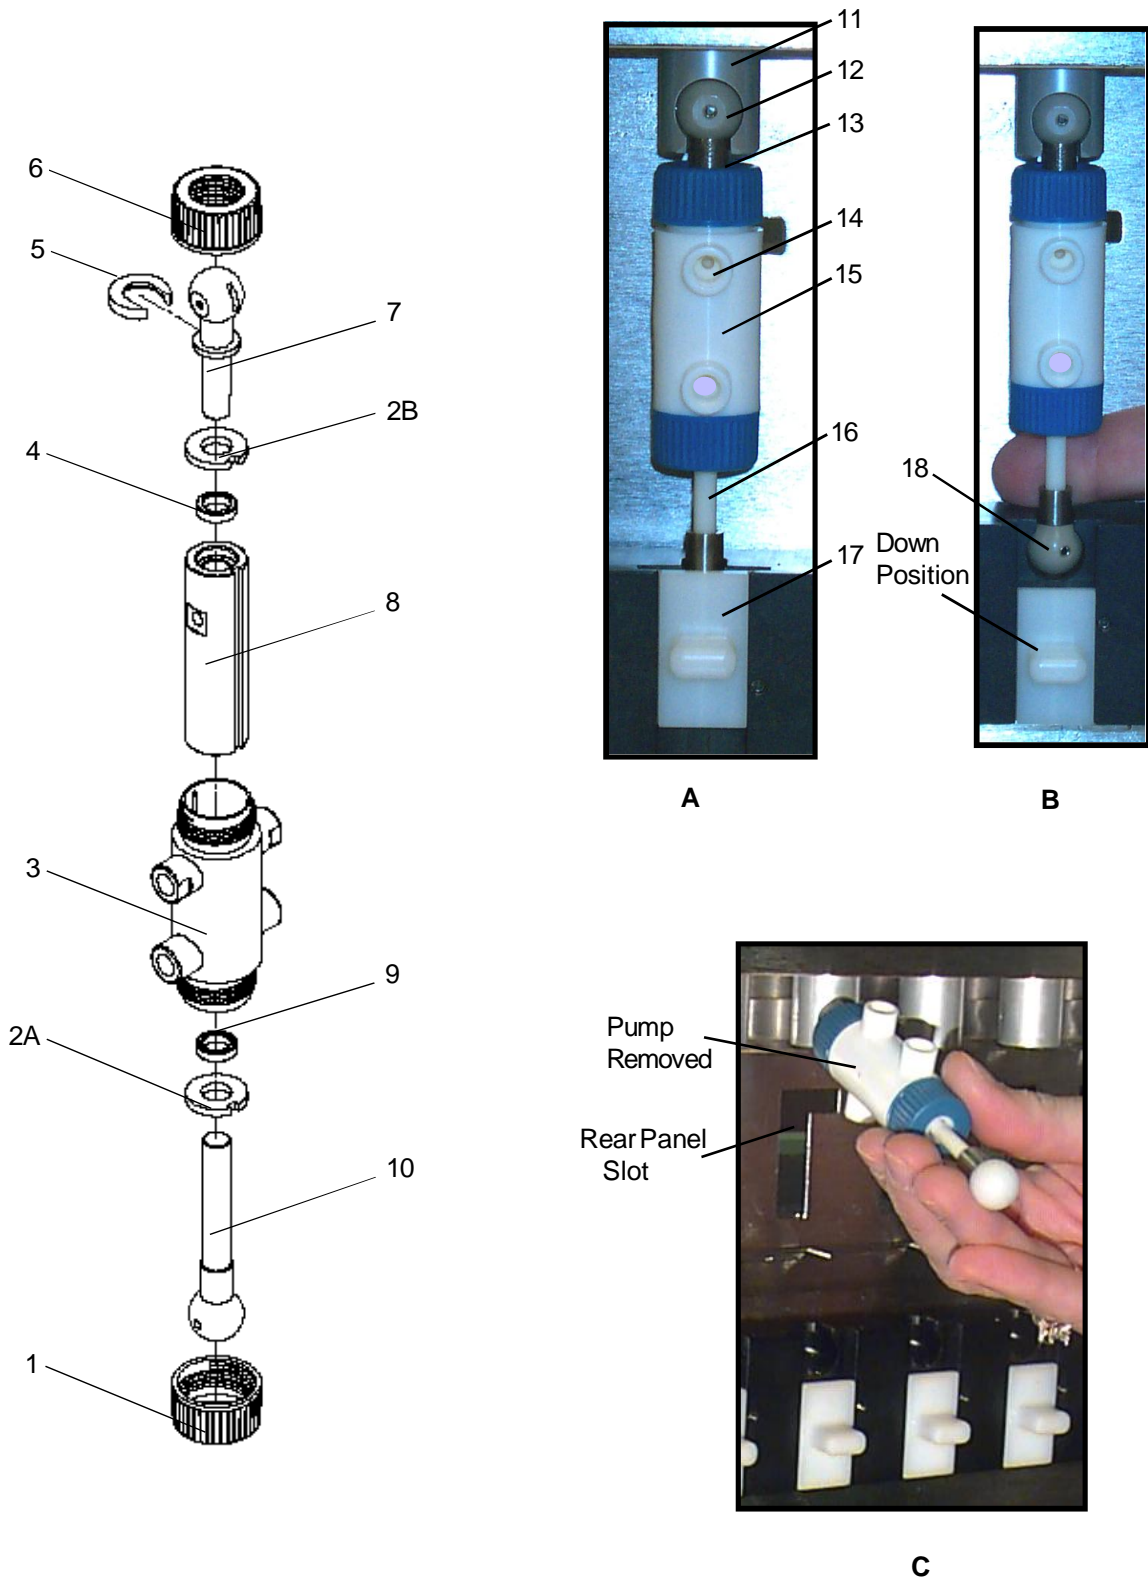

Figure 7.2 SF Multiplex Pump Module Assembly/Disassembly
7.5.2 Assembly/Disassembly Procedures (Figure 7.2)
7.5.2.1 Pump Module (Figure 7.2)